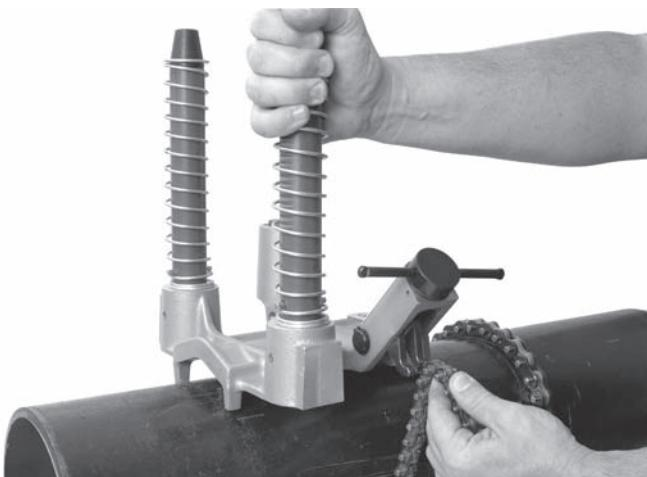

Figure 8 – Hooking the Chain
- Always keep at least one hand on the base assembly to stabilize and guide it. Grasp the end of the chain and pull it snugly around the pipe. As you pull on the chain, a spring is compressed at the attachment end of the chain. Hook the closest chain pin on the chain hook – the spring tension will help keep the chain engaged with the chain hook. Firmly tighten the crank screw assembly to hold the base assembly to the pipe. (See *Figure 8*.)